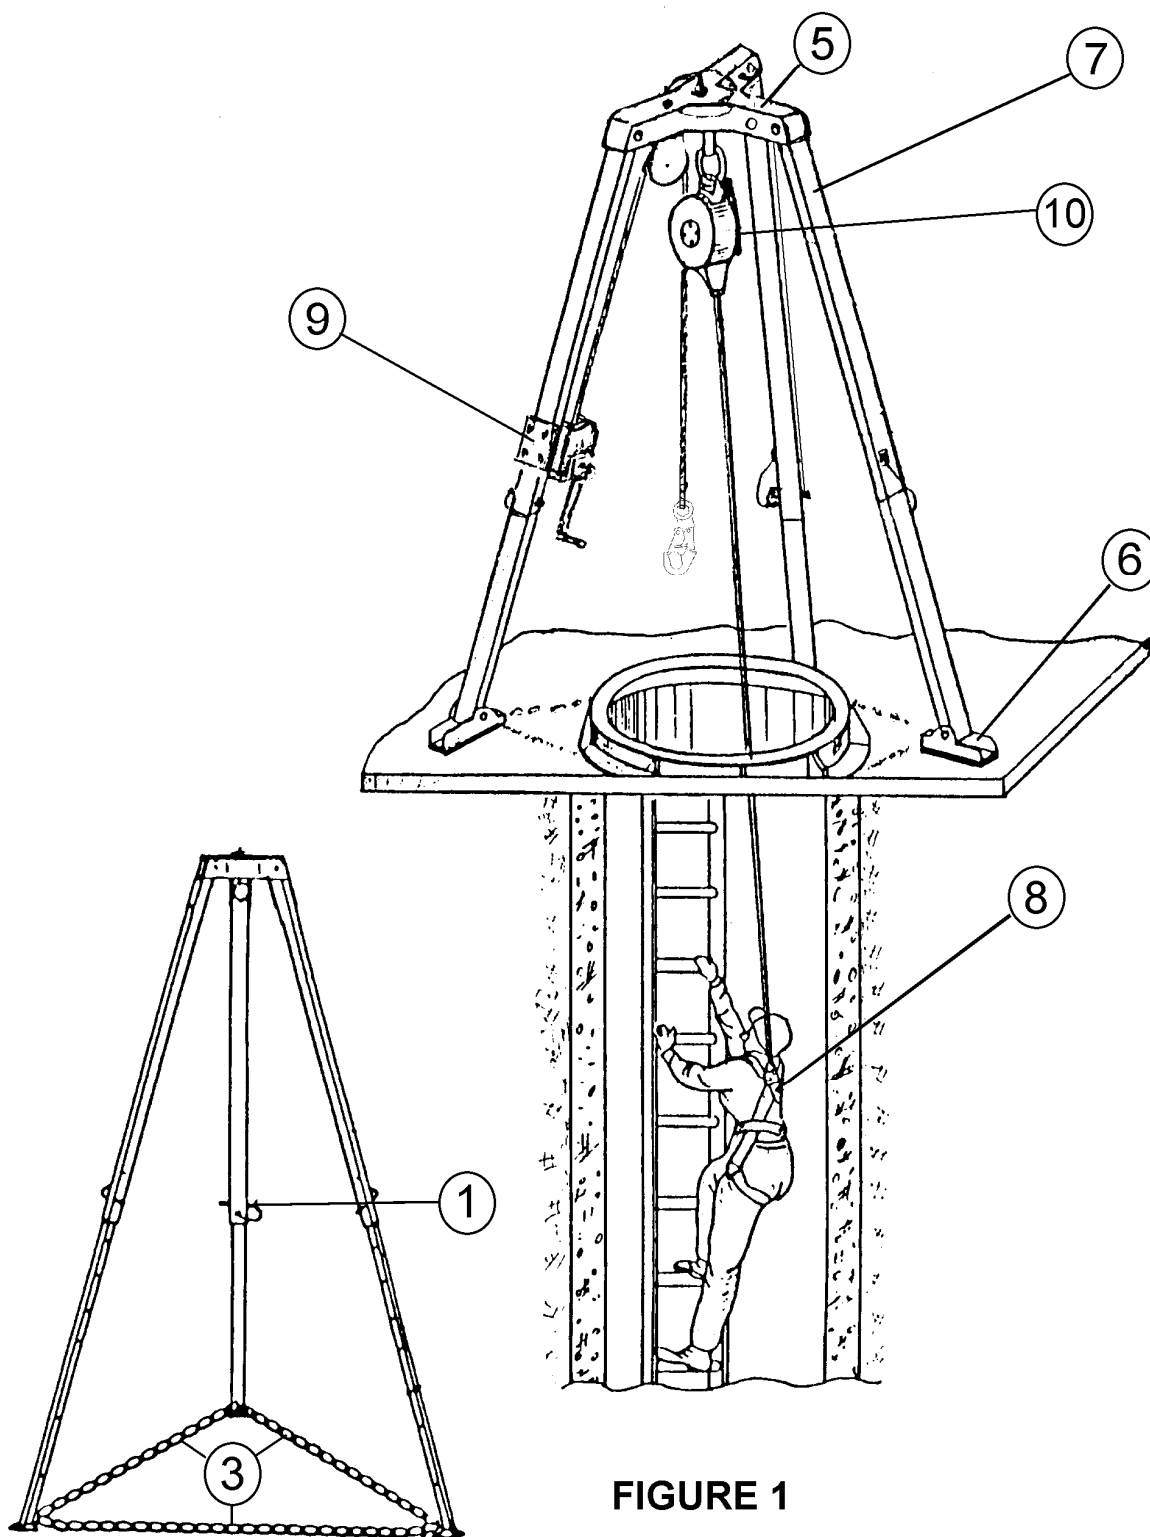

FIGURE 1
Gemtor Tripods Figs. 1 & 2 are designed to be used principally with Sentry or work winches (9) and Sentry self-retracting lifelines (10). Tripods provide a convenient, portable attachment point which can be moved from place to place, as needed. The tripod's legs (7) can be adjusted to accommodate unevenness of footing within reasonable limits.